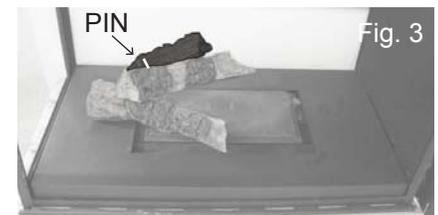

Fig. 3
5. Place the #3 log onto the pin located in the #2 log and let it rest on the right side log support, as shown in Figure 3 and in the left side view below. Place one pin into the #2 log, as shown in Figure 3.